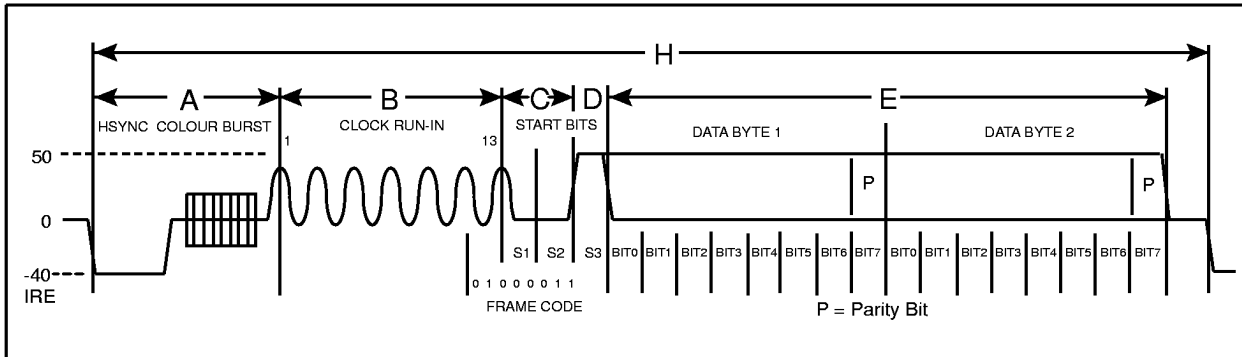

Figure 7 Closed Caption format
Two bytes of data are coded on the line 21 of each field, see Figure 7. In the NTSC Closed Caption service, the default state is to code on line 21 of field one only. An additional service can also be provided using line 21 (284) of the second field. The data is coded as NRZ with odd parity, after a clock run-in and framing code. The clock run-in frequency = 0.5034965MHz which is related to the nominal line period, $D = H / 32$.